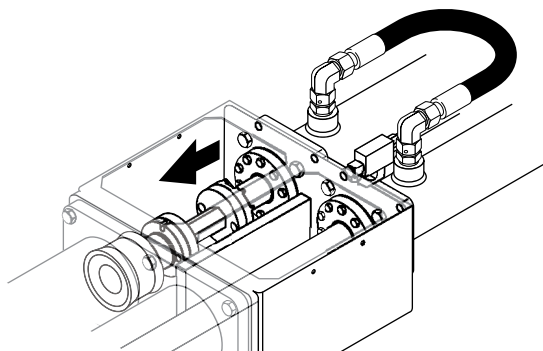

Figure 29
7. Restart the engine and clear the E-stops. Press the concrete pump forward or reverse button and Ram Change Mode button simultaneously. Slowly move the cylinder down to where its flange butts up to the spacer coupling. Be careful not to go too far (Figure 29).